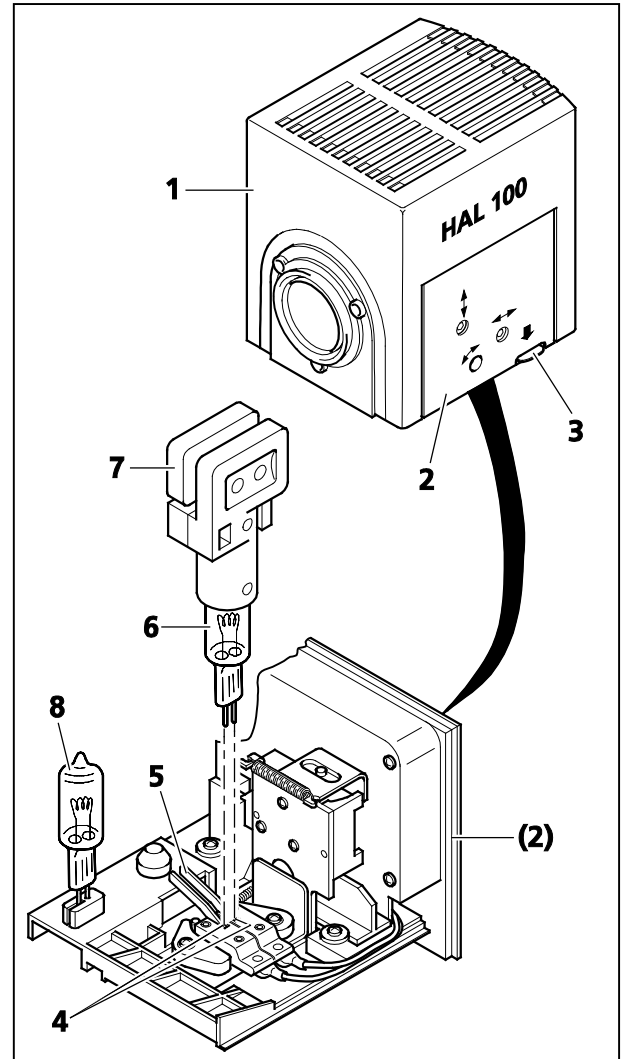

Fig. 3-23 Changing the Halogen Lamp
You need not remove the lamp housing from the stand to change the halogen lamp. Do **not** store the replacement tool (Fig. 3-23/7) provided for the halogen lamp inside the lamp housing while the lamp is in operation. The replacement lamp (Fig. 3-23/8) may remain inside the lamp housing in the plugged-on position.
- Press down the unlocking button (Fig. 3-23/3) of the HAL 100 (Fig. 3-23/1) halogen illuminator, pull out the illuminator drawer completely (Fig. 3-23/2) and set it down separately.
- Press down the two spring levers (Fig. 3-23/5) and pull the old halogen lamp (Fig. 3-23/6) out upward.
- Press down the two spring levers, insert the new lamp into the lamp base (Fig. 3-23/4) and release the spring levers. Be sure to always use the replacement tool (Fig. 3-23/7) for holding / touching the halogen lamp, as traces of grease may impair the service life of the halogen lamp. If required, clean the bulb with pure alcohol before you switch the lamp on for the first time in order to prevent dirt from burning into the glass.